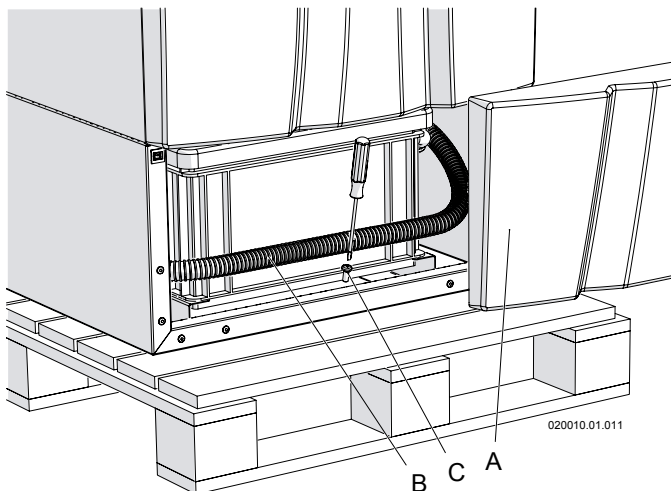

Figure 6-1 - Remove appliance from wood pallet
- 2.- Remove the front door (see Section 16.2) to access the screw "C" (Figure 6-1) in front of the unit;